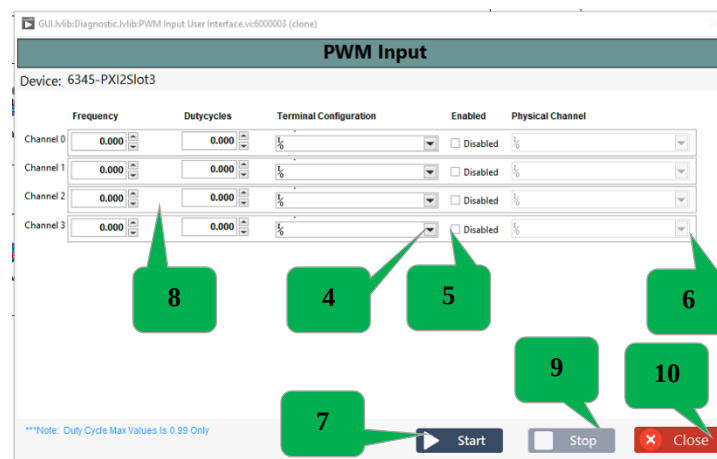

Figure 53: PWM Input
- 2) Click the PWM Input Diagnostic Button and Refer Fig 53.